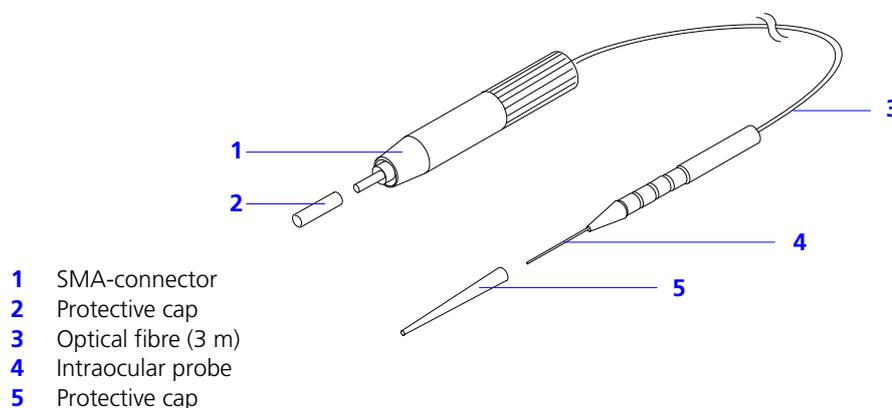

Fig. 36 Intraocular probe
Each intraocular probe is supplied in a sterile pack. The probe consists of the components illustrated in Fig. 36.
- Remove the protective cap (2, Fig. 36) from the optical fibre adapter.
- Screw the SMA connector (1, Fig. 36) into the laser console's optical fibre socket (6, Fig. 14).